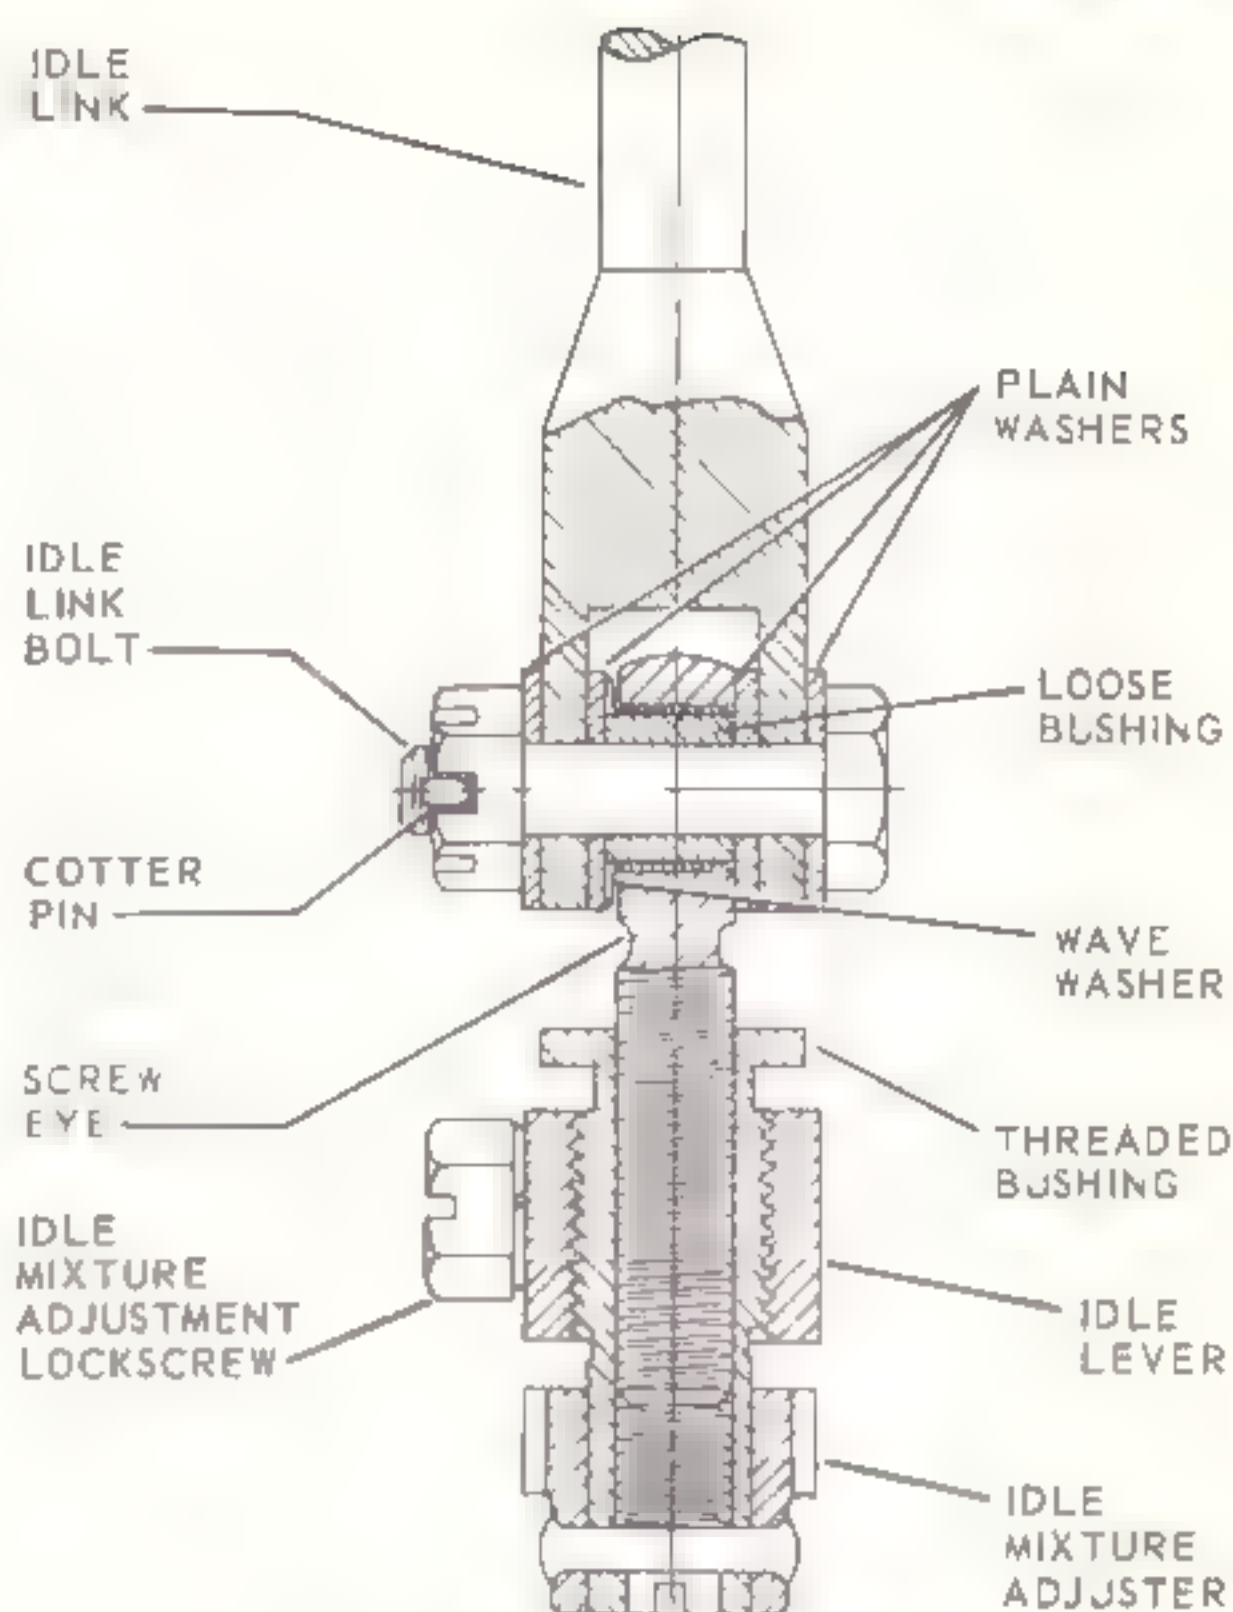

Figure 5-83. Cross section of adjusting idle indicator
(2) Reposition mixture control lever (2) on mixture control latch cover (4) so that when mixture control lever on engine control quadrant (pilots' compartment) is in either RICH, NORMAL, or IDLE CUT-OFF position, under actual engine operating conditions, mixture control latch cover (at carburetor) will register RICH, NORMAL, or IDLE CUT-OFF respectively; also, protrusion on mixture control latch cover (at carburetor) will be positioned to correspond relatively from protrusion on mixture control cover (on pilot's engine control quadrant).
(3) Tighten castle nut (3) and secure with cotter pin.
d. Adjustment of idle mixture linkage to shift idle mixture adjustment range. (1) When adjusting idle indicator (6, figure 5-82) has insufficient travel to obtain correct idle mixture, disconnect idle link (10) from eye of idle adjusting screw (8) by removing cotter pin and idle link bolt (5). (See figure 5-83.)
screw eye of idle adjusting screw out of idle adjusting bushing. (See figure 5-83.)
(3) Connect idle link (10, figure 5-82) and eye of idle adjusting screw (8) with idle link bolt (5) and castle nut (9), using extreme care to assure that various parts are in their correct position. (See figure 5-83.)
(4) Place four plain washers in position as shown in figure 5-83. Note that wave washer fits over outside diameter of loose bushing between eye of idle adjusting screw and plain washer.
(5) Tighten castle nut until idle yoke and plain washers clamp loose bushing. Wave washer allows freedom of movement without looseness. Secure castle nut with new cotter pin. (See figure 5-83.)